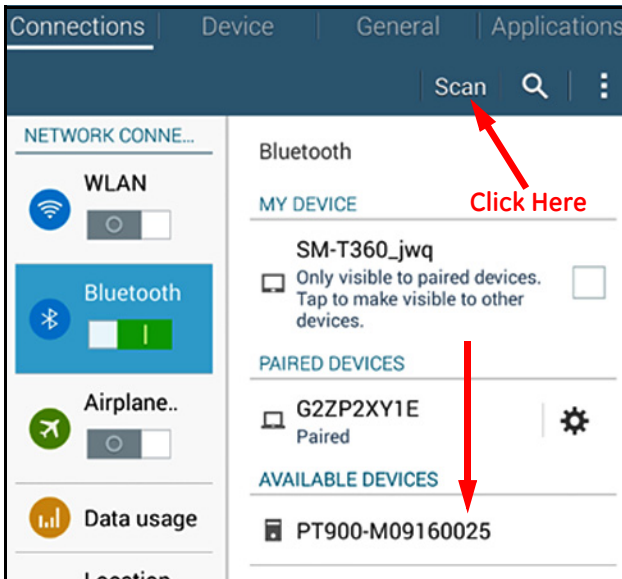

Figure 66: Available Devices List
- In Android, APP will search for all available transmitters via Bluetooth. After the scan has been completed, any new transmitters which were found are listed in the **AVAILABLE DEVICES** section of the tablet screen (see red arrow in *Figure 66* below). Click on your transmitter to pair it with the tablet via Bluetooth.